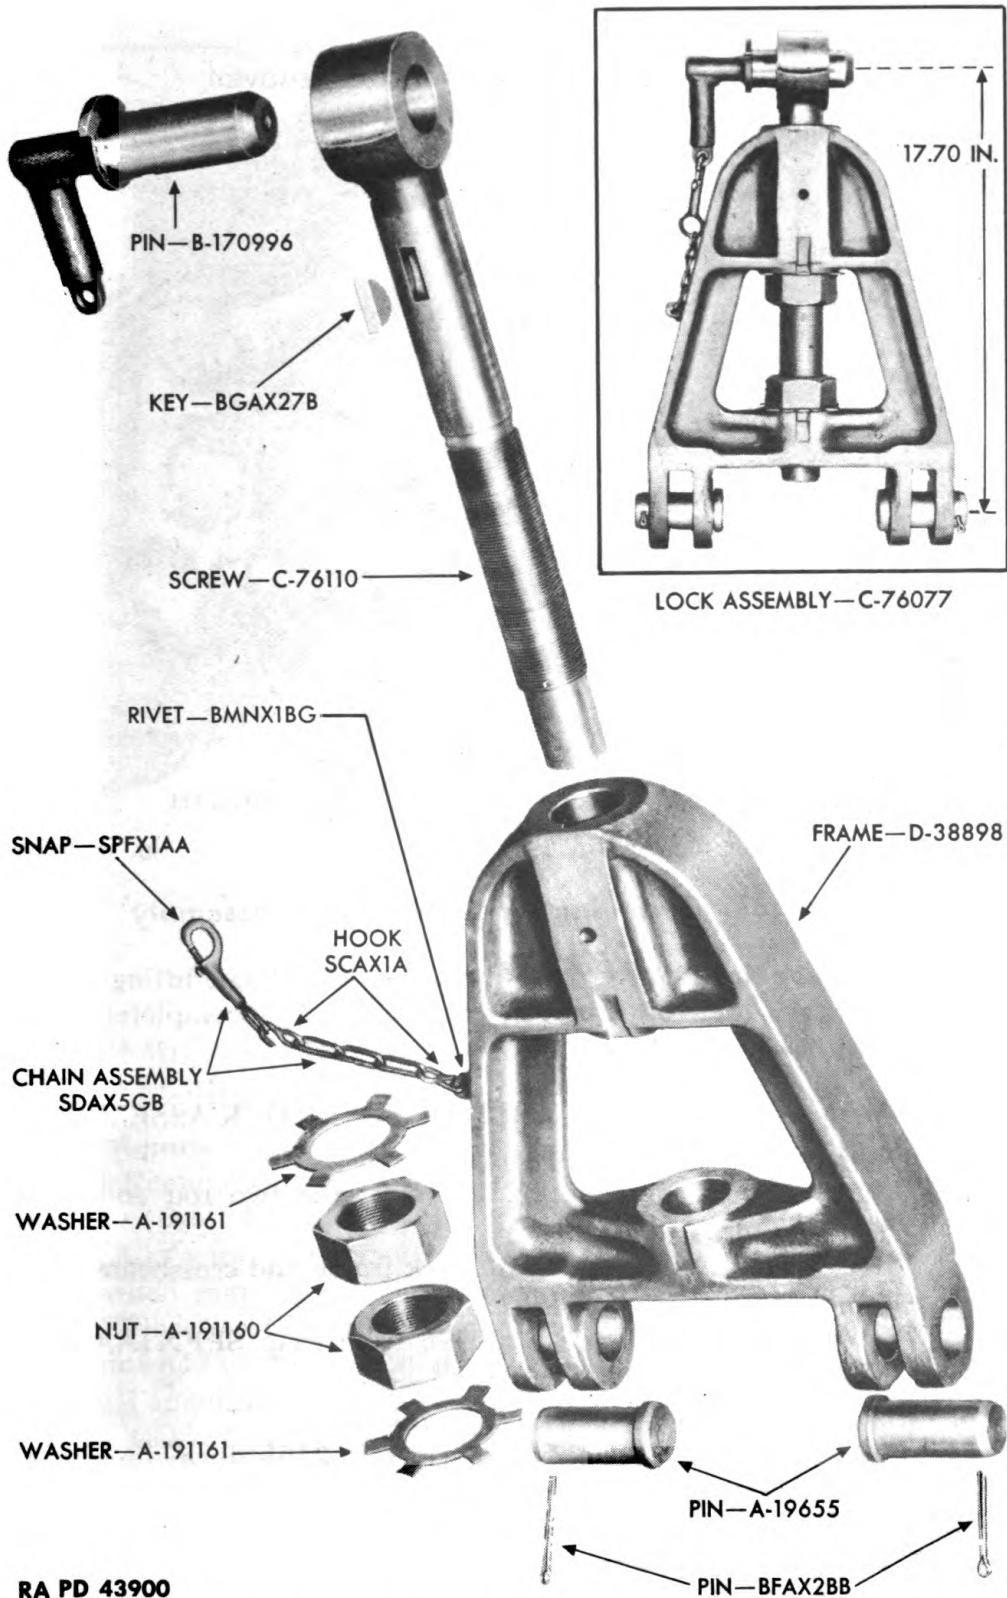

Figure 247 — Cradle Lock and Parts
(1) Remove cotter pins BFAX2BB from the two rod end pins A19655 (fig. 247).
(2) Tap rod end pins out of cradle lock frame and crossbeam, and remove cradle lock assembly C76077.
(3) Remove cradle lock pin B170996 from snap SPFX1AA and frame D38898.